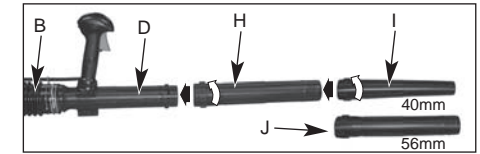

Fig. 7
Connect the intermediate tube (H) and concentrator nozzle (I) or 56mm nozzle (J) (you can only use one nozzle at a time). Push the tubes together and turn clockwise until they lock together (Fig. 7). Use concentrator nozzle when you need more airflow in tight places: flower beds, under decks, etc.